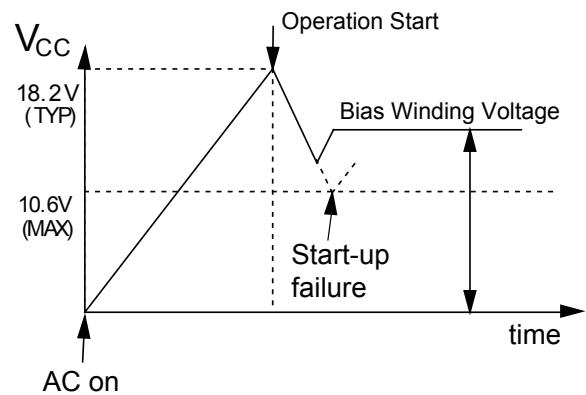

Figure 4. VCC pin voltage after start-up, capacitor C3 installed
**Bias/drive winding** After the control circuit starts its operation, the power supply is operated by rectifying and smoothing the voltage of the bias winding. Figure 4 shows the start-up voltage waveform of the VCC pin. The bias winding voltage does not immediately increase up to the set voltage after the control circuit starts its operation. That is why the VCC pin voltage starts dropping. The Operation-Stop voltage is set as low as 10.6 V (max), the bias winding voltage reaches a stabilized voltage before it drops to the Operation-Stop voltage, and the control circuit continues its operation. The bias winding voltage, in normal power supply operation, is set for the voltage across C3 to be higher than the Operation-Stop voltage,  $V_{CC(OFF)}$ , 10.6 V (max.) and lower than the OVP-operation voltage,  $V_{CC(OVP)}$ , 25.5 V (min.).